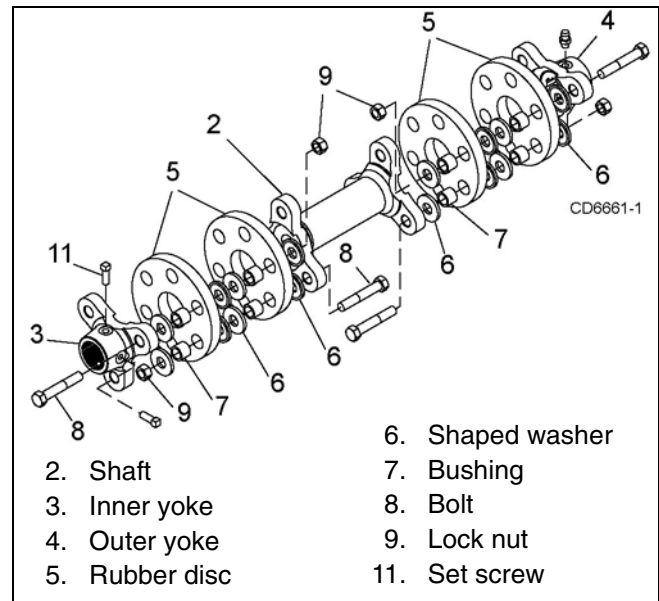

Figure 21. Side Drive Assembly
Reassemble shaft as shown in Figure 21. End yokes (3 & 4) do not bolt directly to center shaft (2). Use the special formed washer (6) and bushings (7) between the rubber discs (5) and under bolt head or nut near rubber disc. Tighten the nuts (9) evenly until the formed washers (6) are slightly embedded into the rubber discs. Rubber discs (5) will warp and twist if bolts are over-tightened. Tighten set screw (11).